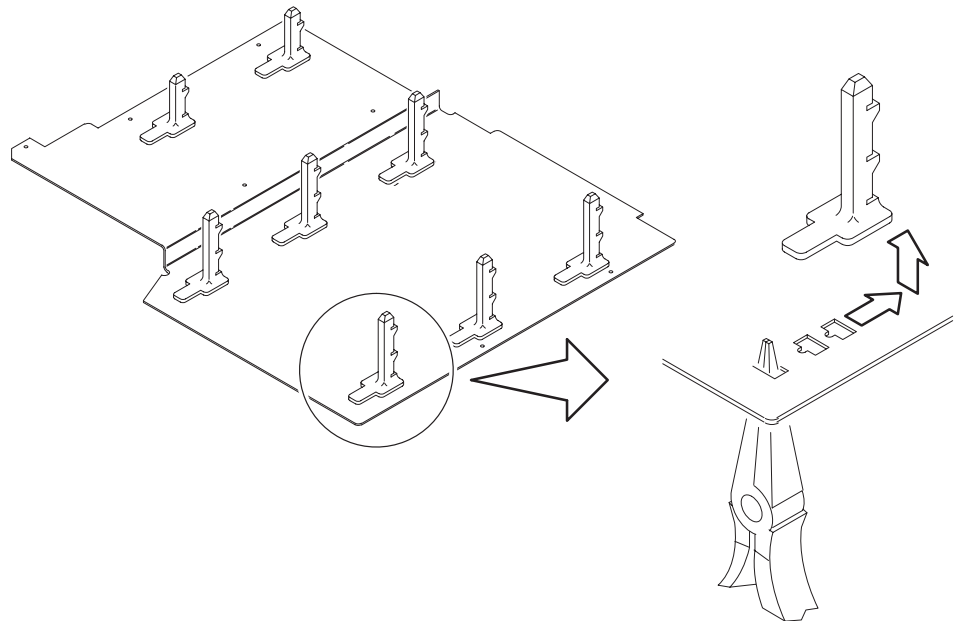

Figure 6–18: Board bracket removal
- b. Locate the modules to be removed in the locator diagram *Outer-Chassis Modules*, Figure 6–2, page 6–13.
- b. Locate the modules to be removed, including those listed under *Additional Modules Removed* in the locator diagram *Outer-Chassis Modules*, Figure 6–2, page 6–13.
3. *Remove the Acquisition Board:* Use Figure 6–19 or 6–20 as a guide.